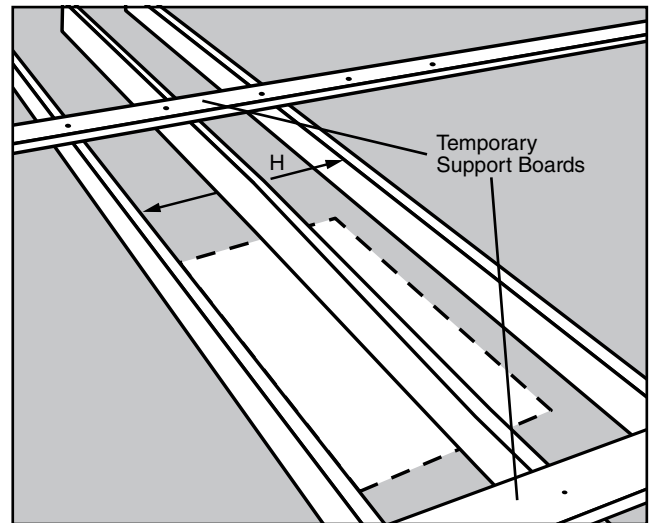

FIGURE 14
- STEP 1.** Measure the header length “H” between the **uncut** joists (See Figure 14).